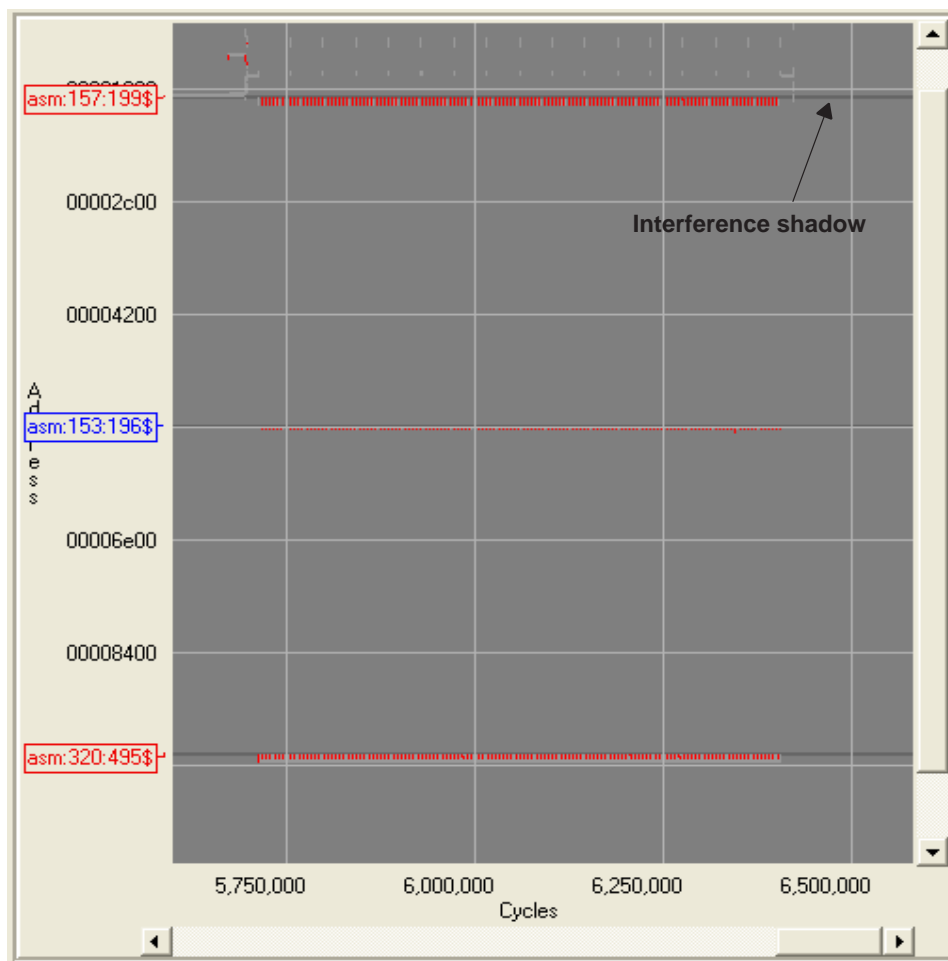

Figure 21. Conflict Misses in Program Cache
7. Click the Find Conflicting Symbols button . This displays all cache conflicting symbols with a red box around them in the Address Section. Also, the CacheTune tab of Advice Window displays text information on the conflicting symbols, such as the symbol's name, the conflict range, etc. Again, hover your mouse over the cache misses legend to view only the cache misses event. A screen shot is shown in Figure 21. Notice dark shadows are drawn on top of the upper and lower horizontal bars.